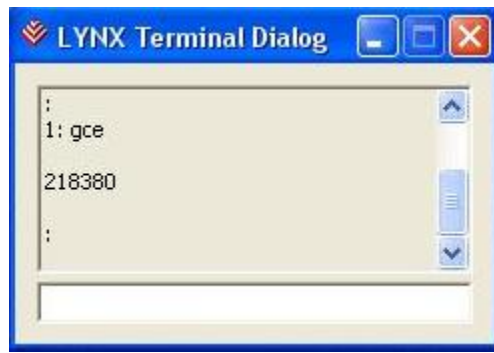

Figure 4 – LYNX Terminal Dialog window
- Set the camera to free running mode, or to the mode the camera will be used. To set/change the camera configuration (mode of operation), click on “Help” menu and select “LYNX Terminal Dialog” A new window will appear – Figure 4, where the user can enter the required camera configuration commands. When completed, press “Start Grab” button.
- To find and record the hot pixels the user first needs to set the camera to high gain ~ 30 dB. Reduce the camera illumination, so the signal level in the display window is ~ 100 ADU (or less) for 12 bit mode (~ 25 ADU for 10 bit mode and 10 ADU for 8 bit mode). Enable “Hot” box, and set the threshold slider to 3600 ADU, i.e. approximately 90% of the maximum signal value (~ 900 ADU for 10 bit mode and 230 ADU for 8 bit mode). The user can set the threshold value to any desired level. Click on “Start test” button, and the list of the hot pixels will appear in the window. For this test the user can use long integration. Using the dialog window (Figure 4) set the camera to 500 ms long integration (type *sl* 500 in the dialog window) and repeat the test.